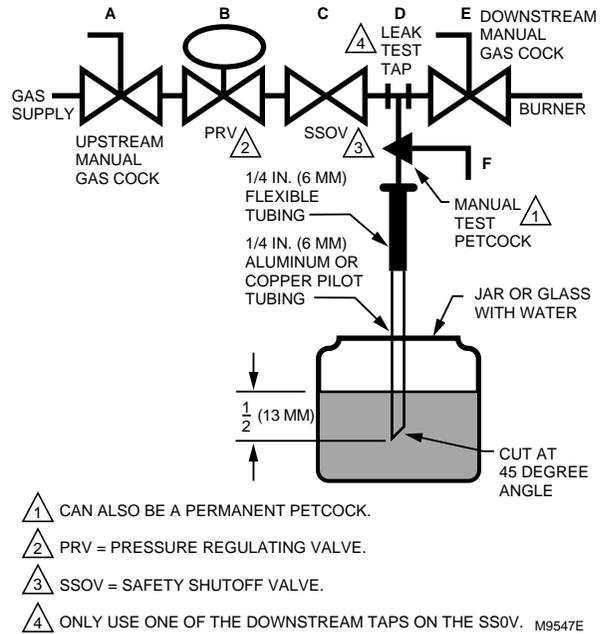

Fig. 6. Valve leak test.
Prepare Piping and Install Valve (Fig. 6).
4. Install the valve in a horizontal pipe line in an upright position with the gas flow in the direction indicated by the arrow on the casing. The valve must be upright (electrical connection tower in the up position) on a horizontal axis with respect to the inlet connection (see Fig. 6). Certain models may be mounted in the